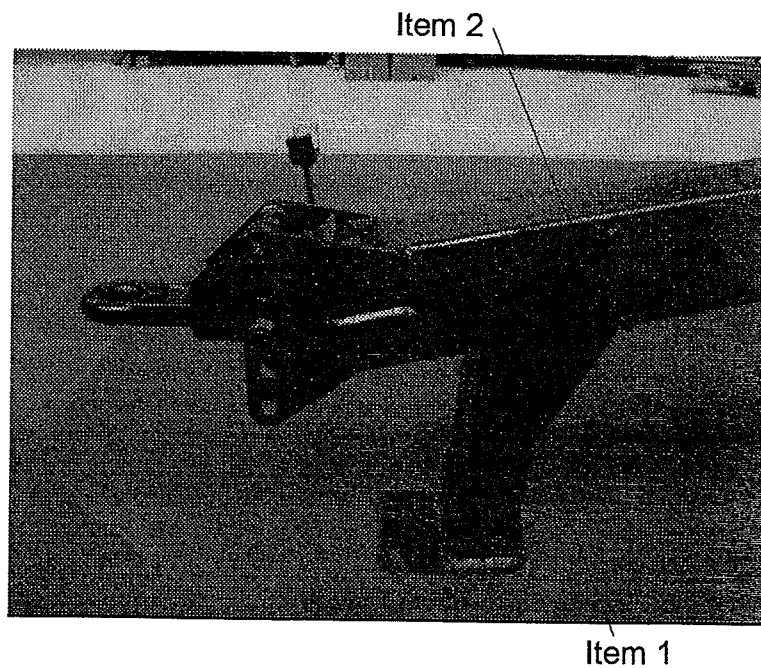

Fig 5.2
The drawbar eye is adjustable for height to allow the machine to be set in a level working position. When in work, the top of the guard above the Galaxy star unit is to be level with the ground. To adjust, remove the two bolts attaching the eye to the drawbar (fig 5.2), and move the eye to the required position. If the required position cannot be achieved, the eye may be turned over to give a second range of adjustments. Refit and tighten the bolts.
The jackstand is provided so that the machine is held at a suitable height for safely coupling to the tractor (fig 5.2 item 1).
When the machine has been securely attached to the tractor, the jackstand can be folded back into the stored position by removing the anchor pin that secures it. (Fig 5.2 item 2) Rotate the jackstand into the storage position and secure it with the original anchor pin.